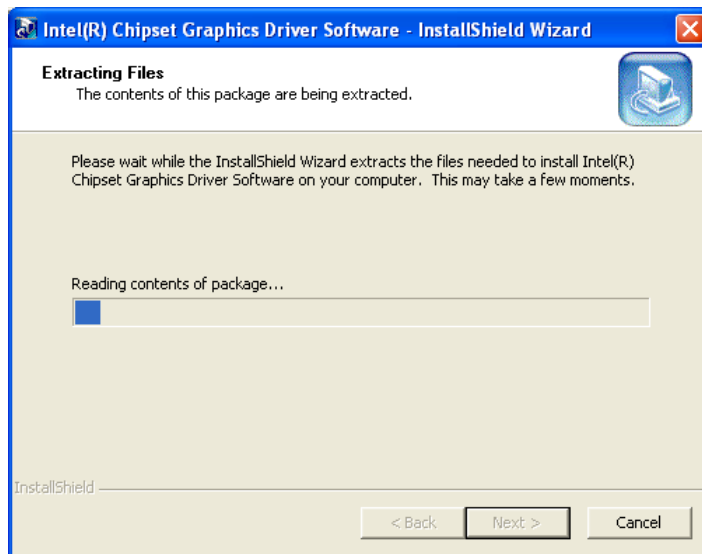

Figure 6-11: VGA Driver Setup Files Extracted
Step 5: The installation files are extracted. See Figure 6-11.